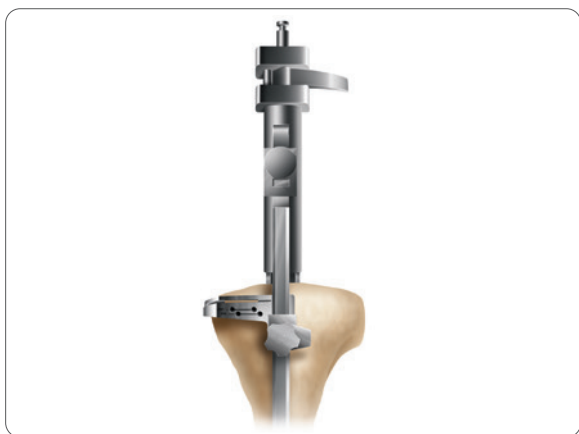

Figure 95
3. Assess rotation of the intramedullary tibial alignment guide. Rotational alignment is critical due to the 3° posterior sloped cut. The alignment rod of the intramedullary tibial alignment assembly should align with the medial third of the tibial tubercle (**Figure 95**).